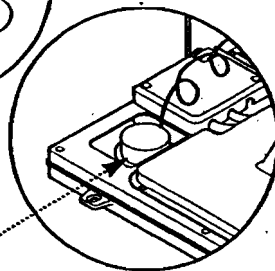

Fig. 65
2. Depress the two lugs on either side of the pressure gauge and feed through facia (Fig. 65).
1. Remove electrical plug (Fig. 65).
2. Depress the locking latch whilst rotating the head anticlockwise through 45° (Fig. 65) and pull forward (Fig. 66).
1. Remove the diverter valve actuator (Figs 65 & 66).